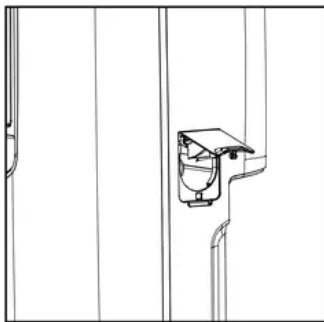
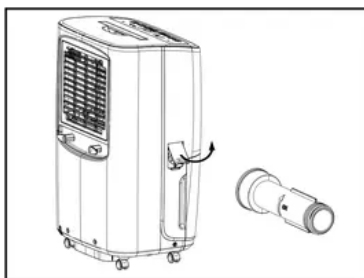

fig. 1
fig. 4
- Open the drain cover at the side of the unit, so the drainage connector could be found inside. (fig.1) Take out drainage adapter from the top of the styrofoam packaging. (fig.4)
**NOTE:** The drainage adapter is just a helpful tool which facilitates the installation of dehumidifier drain hose (not supplied), however it is not necessary for the operation of the continuous drainage feature. You can still use this feature by inserting the dehumidifier drain hose through the side opening and connecting it to the outlet. (fig. 1&2&3) It may be helpful to remove the bucket so you can see the connection better.